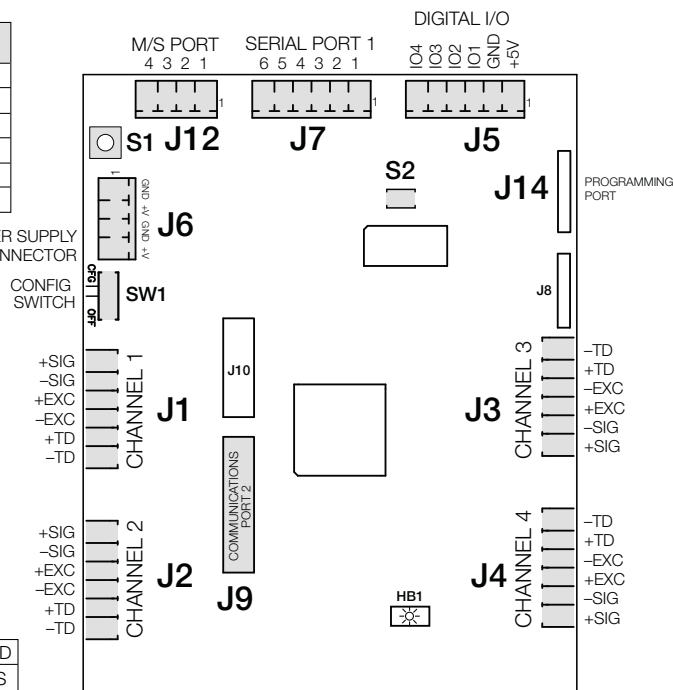

Figure 2-4. CPU Board
NOTE: J1 - J4 have connectors in place and are field wired as needed. Connections J6 and J7 have connectors in place and require wiring during install. Use Figure 2-4 to confirm connections. This graphic matches Label PN109344, affixed to the inside cover of the iQUBE². For RS-422 connection, see S2 Port in Table 2-6.
4. Carefully align the option card connector with J9 on the CPU board (Figure 2-4 on page 18) and the standoffs.